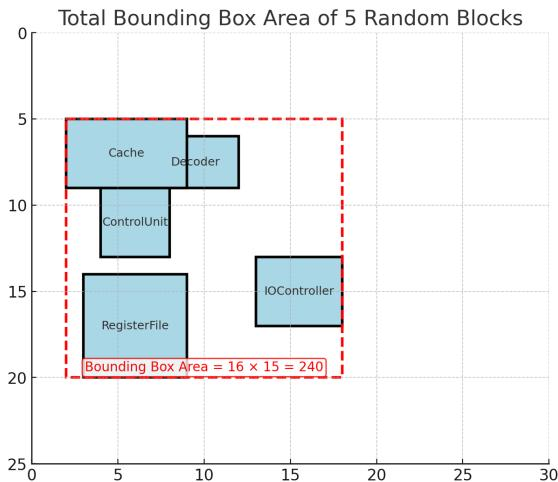

Figure 2
2. **Minimizing the total bounding area:** Figure 2 above hints at how the total bounding area can be calculated for a random placement of 5 component blocks. The red dashed rectangle is the bounding box- aka the smallest rectangle that contains all of the blocks inside. Given the bottom left coordinates (x,y) for all block components, you can easily find out the minimum and maximum of all x and y values, which will help you to calculate the area of such a bounding box $[(x_{max} - x_{min}) * (y_{max} - y_{min})]$. The **smaller** the bounding box area is, the **better** the layout is.
3. **Minimizing total component overlaps:** In Figure 2, there exists an overlap between the two components (cache and decoder). A single block can, in fact, be overlapped with multiple other blocks in a random placement. **Overlaps are not desirable.** Hence, a